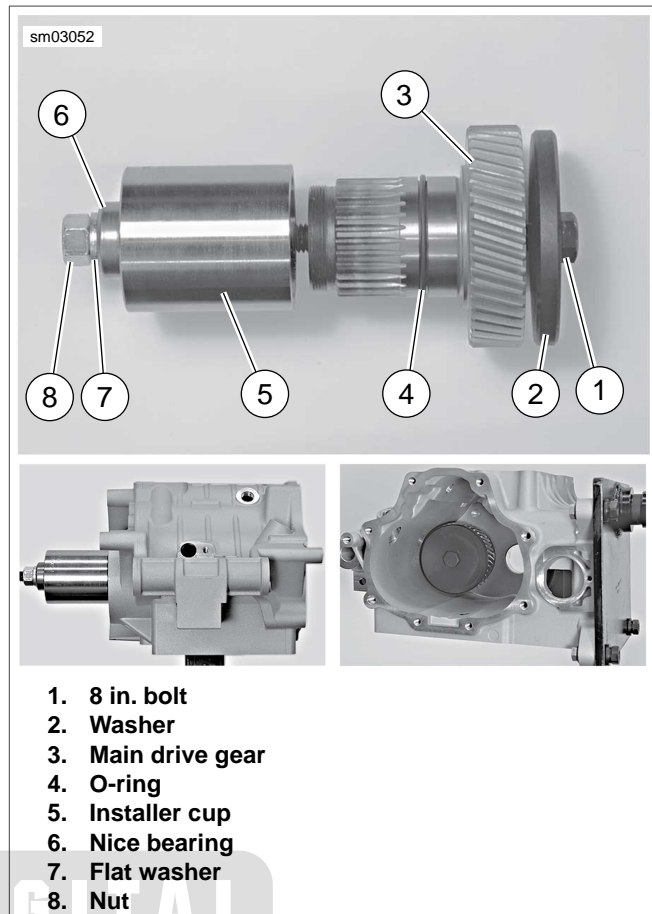

Figure 6-43. Installing Main Drive Gear (Typical)
See Figure 6-43. Make sure **new** o-ring (4) is installed onto main drive gear (3). Lubricate o-ring with clean engine oil before installing drive gear into transmission case.
- See Figure 6-43. Apply a light coat of graphite lubricant to the threads of 8 IN. BOLT (Part No. HD-35316-4A) (1) and insert through WASHER (Part No. HD-35316-7) (2) and main drive gear (3). Insert assembly into transmission case, through main drive gear bearing.
- At outside of case, place INSTALLER CUP (Part No. HD-35316-12) (5), NICE BEARING (6), FLAT WASHER (7) and NUT (8) over end of bolt.